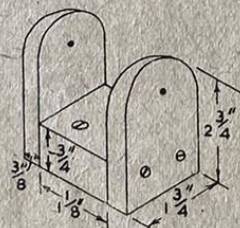
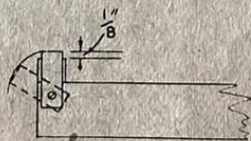

Fig. 3
Fig. 2
FROM plywood or deal board about $\frac{1}{2}$ in. in thickness cut several pieces about 8 ins. by 10 ins. to comprise a total of $1\frac{1}{2}$ ins. These pieces should be glued and screwed together, and the bottom face planed flat, if deal board is used. At each end on the top glue and screw 8 in. pieces of $\frac{1}{2}$ in. square ply or wood, as shown. From Meccano, Trix, Junero or similar strip metal of about 3 in. width, make two 'U' shaped bars, as at (A). Screw these on at the ends of the wood block, allowing about 1 in. between the strips and the $\frac{1}{2}$ in. square pieces of wood, so that the strips can be moved, as seen in Fig. 2. Now form a stirrup from wood (Fig. 3), and screw it securely to the centre of the top of the polisher. An ordinary broom handle is drilled through about 1 in. from the bottom, and fitted to the stirrup with a thin bolt, a nail, or length of heavy gauge wire. This